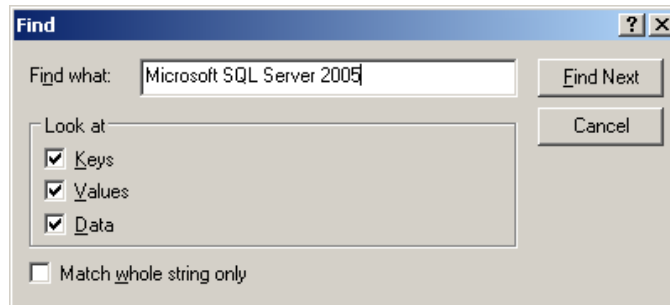

Figure II-34. Find Window in the Registry Editor
- a) An easy way to look for these folders is to right-click on the **Uninstall** folder and select the **Find** function (Figure II-34). Enter “**Microsoft SQL Server 2005**” as the text to find and click the **Find Next** button.